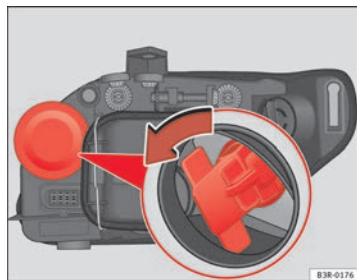

Fig. 219 Turn signal
- Remove the bulb holder by pulling on the grip and turning it anti-clockwise ⇒ fig. 219.